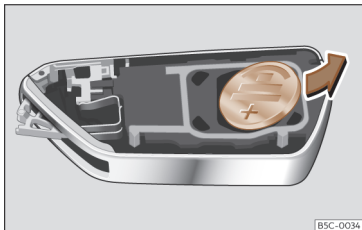

Fig. 78 Vehicle key: removing the battery.
- Extract the battery from the compartment using a suitable thin object >>> **Fig. 78**.
- Insert the new battery and press it into the battery compartment >>> ①.